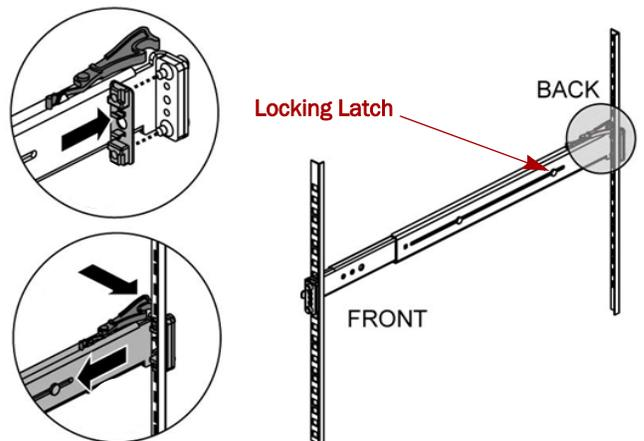

Figure 7. Attaching Rear of Rail
- d. Insert the plastic insert over the rear inside flange pins (Figure 7).